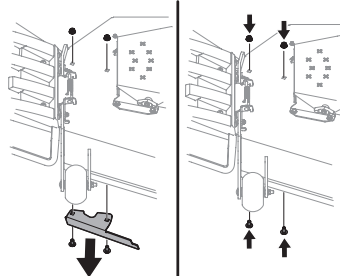

Figure 3
4. Remove chute deflector baffle from underside of deck by removing two carriage bolts and flange lock nuts that secure it to deck. See Figure 3.
5. When baffle is removed, re-install one carriage bolt and flange lock nut into deck in most central opening. See Figure 3.